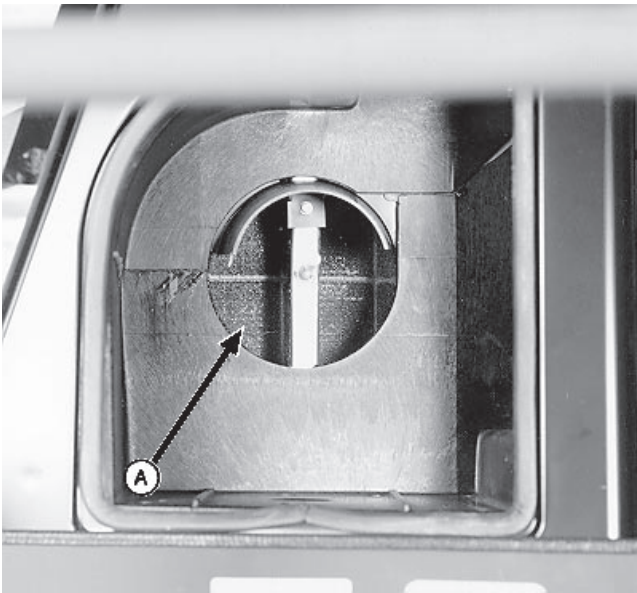

Figure 92. Evaporator Filter
Clean this filter only if other service does not provide enough cooling. The evaporator filter (A) can be inspected from outside the cab after removing the fresh air filter (see Figure 92).